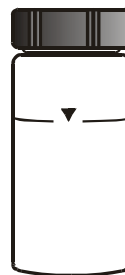

Figure 7:
2. Obtain a clean and dry sample vial (Figure 7).